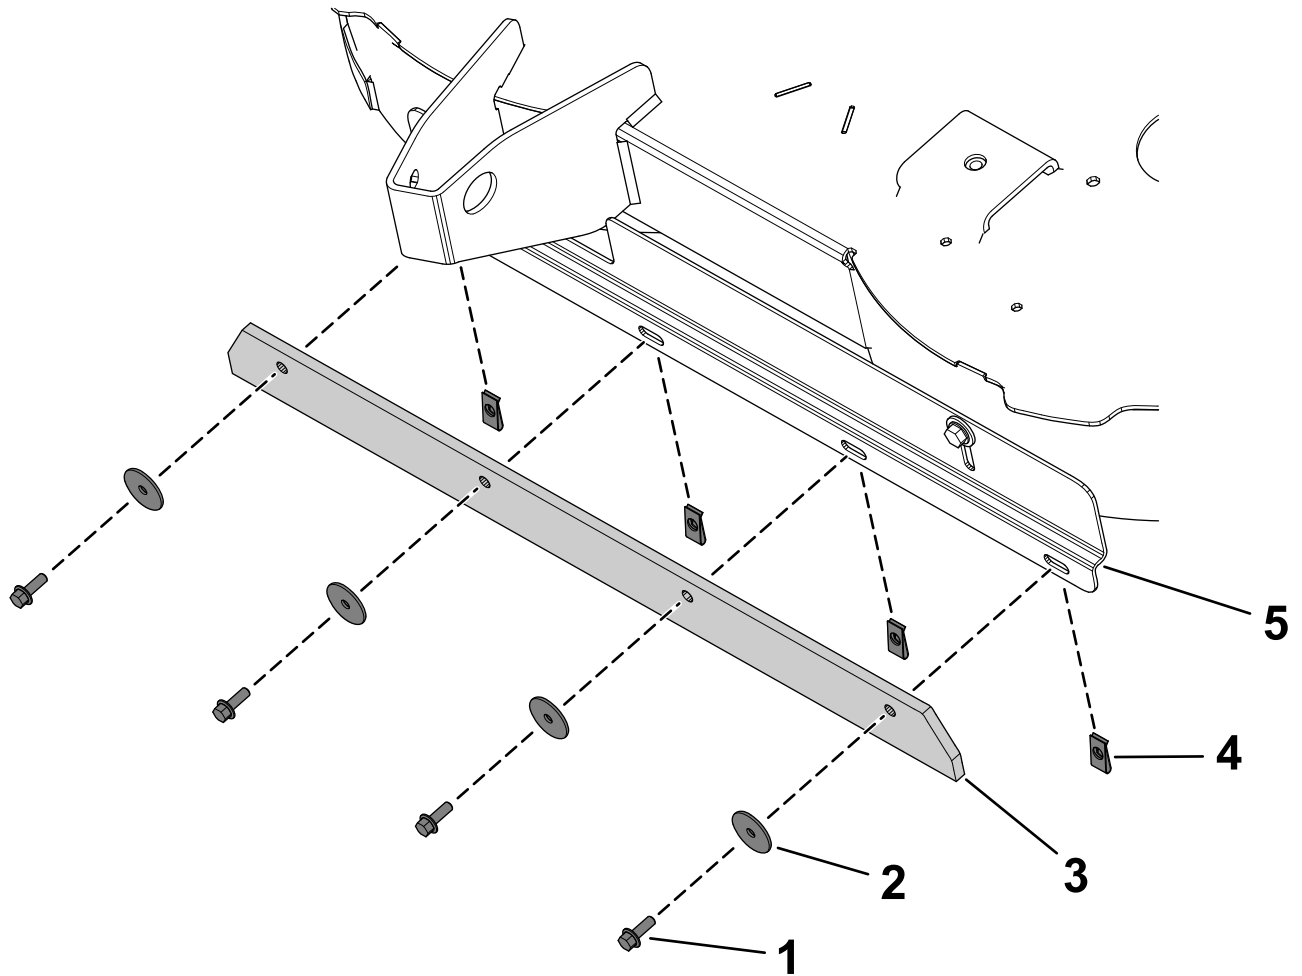

Figure 3
1. Install the 4 speed nuts onto the striping bracket (Figure 3).
2. Secure the wiper to striping bracket and speed nuts using 4 hex-head screws (1/4 x 3/4 inch) and 4 washers (Figure 3).